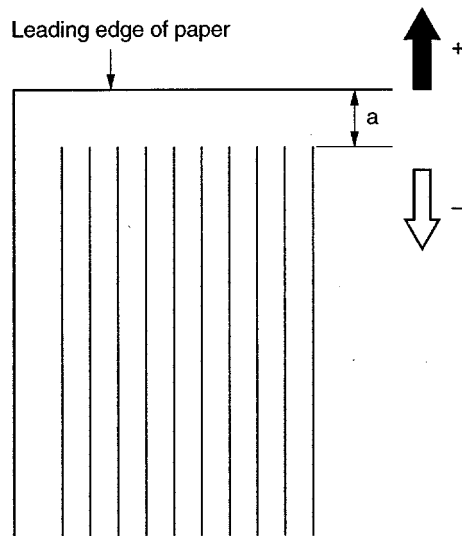
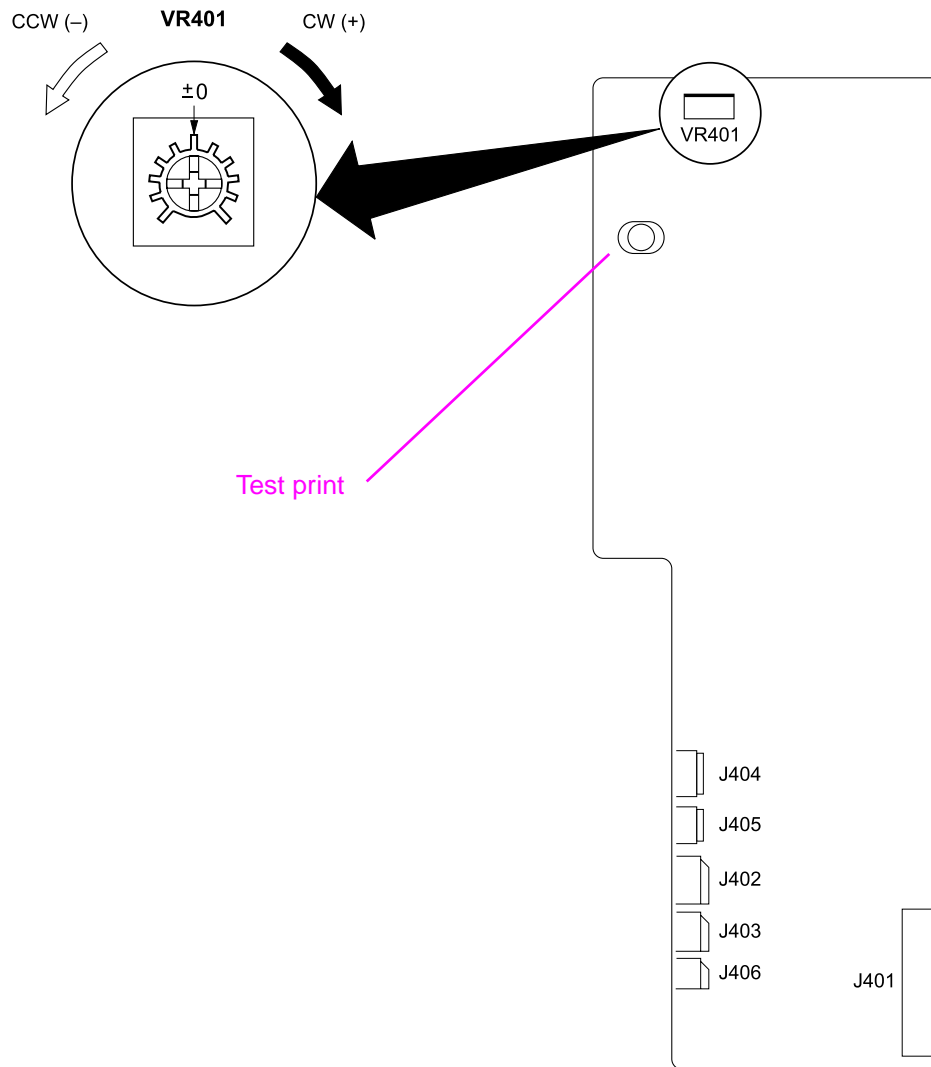

Figure 61. Adjusting the top margin
Figure 62. Location of VR401 on the paper-handling PCA
The test-print switch is also located on the paper-handling PCA (a hole in the Tray 1 cavity allows access); see figure 62.
- 2 Measure the length from the leading edge of the paper to the print pattern ("a" in figure 61). Measure all the test prints and calculate the average.
- 3 Adjust the VR401 so that the calculated value in step 2 becomes 2.0 mm. The pattern image shifts in the "+" direction in figure 61 if the VR401 (see figure 62) is turned clockwise, and in the "-" direction if the VR401 is turned counterclockwise. Turning the VR401 one scale shifts the pattern approximately 0.8 mm. For example, if the average value calculated in step 2 is 2.8 mm, then the difference is 0.8 mm; turn the VR401 clockwise for one scale.